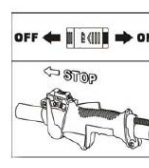

Fig.9
4. Set the switch to ON position. In the opposite direction to the arrow mark with OFF Fig. 9